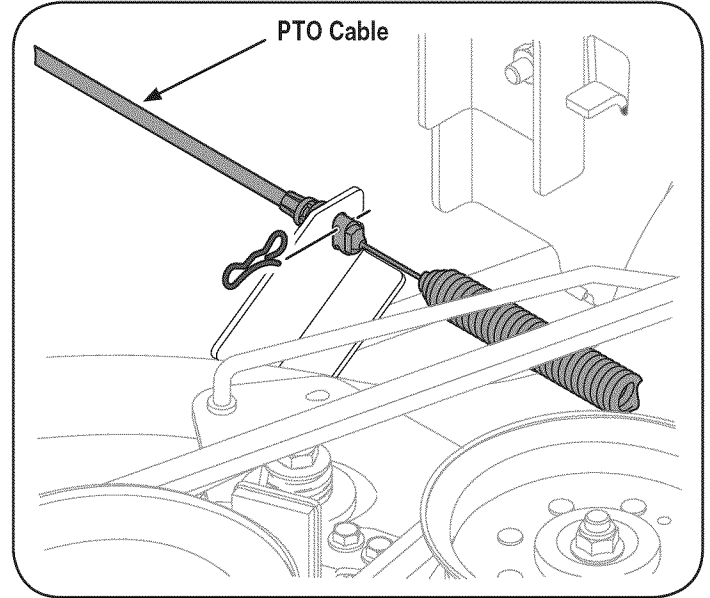

Figure 25
- Carefully remove the PTO cable from the rear of the cutting deck by removing the bow-tie cotter pin which secures it. Remove the spring from the deck idler bracket. See Figure 25.